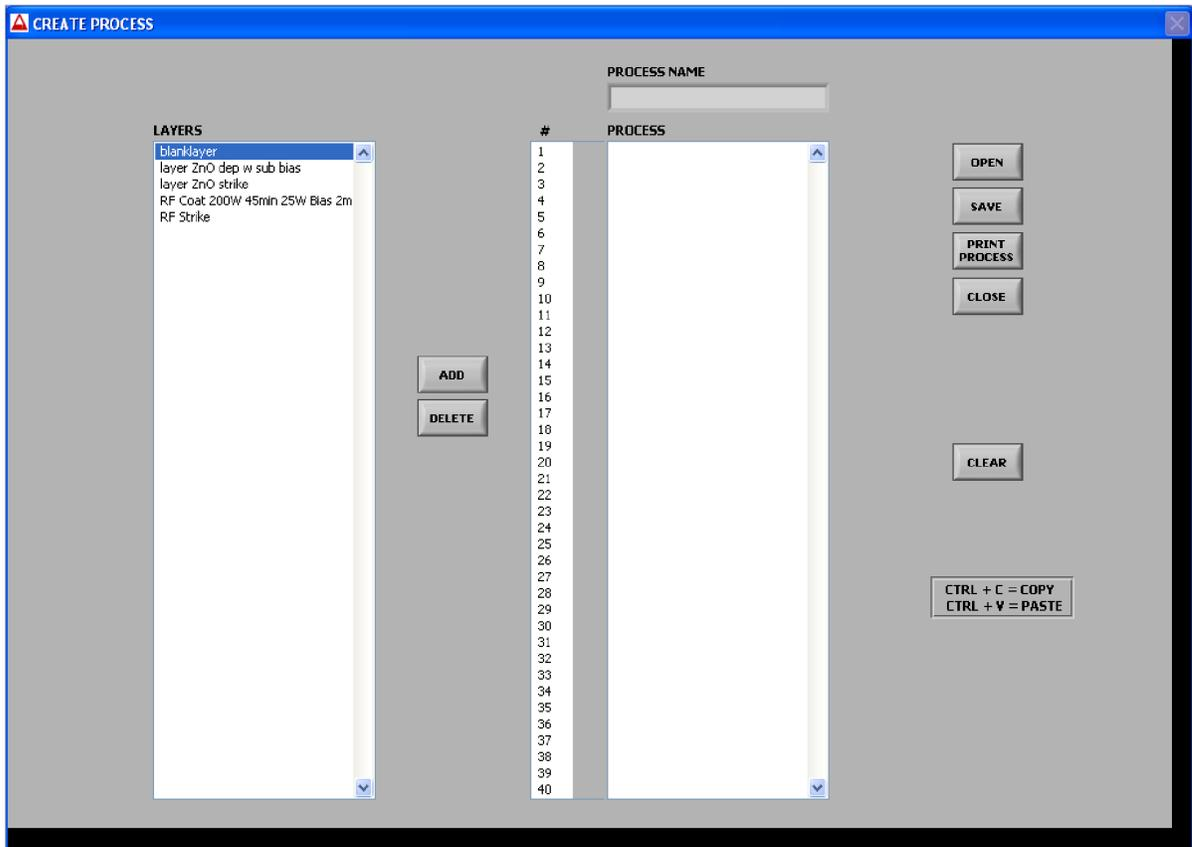

Figure 10: Create process window.
- h) Click on Create Process (top right on main screen). The window shown in Figure 10 will open.